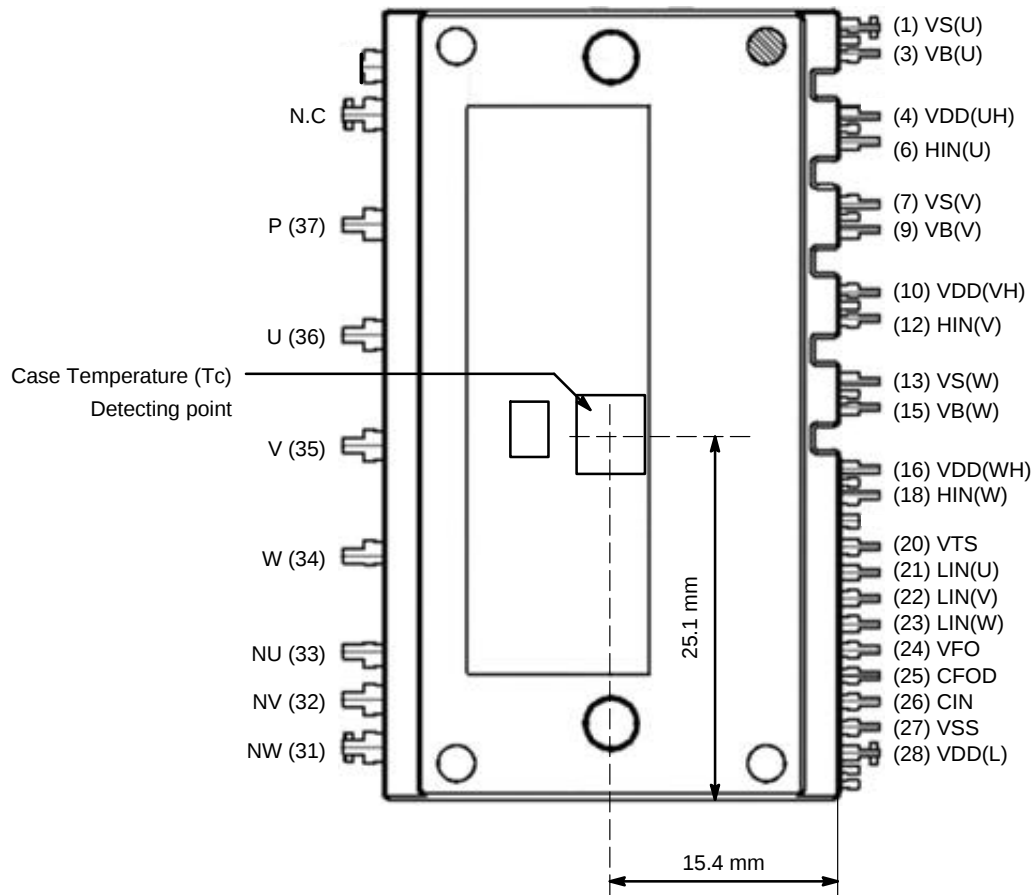

Figure 1. Pin Configuration – Top View
3. For the measurement point of case temperature (Tc), please refer to *Figure 1*.